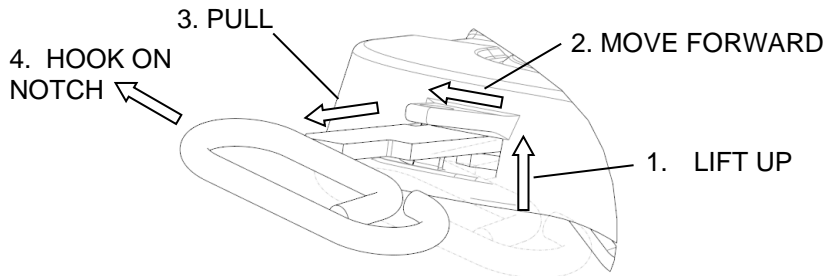

FIGURE 4
- a. Unlock the fifth wheel: Lift release handle up into wide slot and move forward while pulling handle out (see figure 4). Lock handle in open position using notch provided.